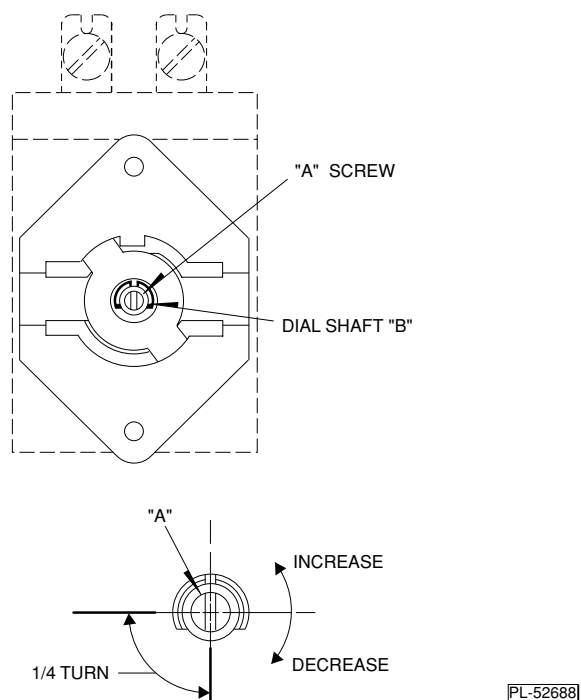

Fig. 1
7. Hold thermostat dial shaft "B" (Fig. 1) stationary with pliers, and with a screwdriver, turn screw "A" (Fig. 1) clockwise to obtain a lower temperature, or counterclockwise for higher temperature. Each ¼ turn (90° rotation) of screw "A" represents 18°F.